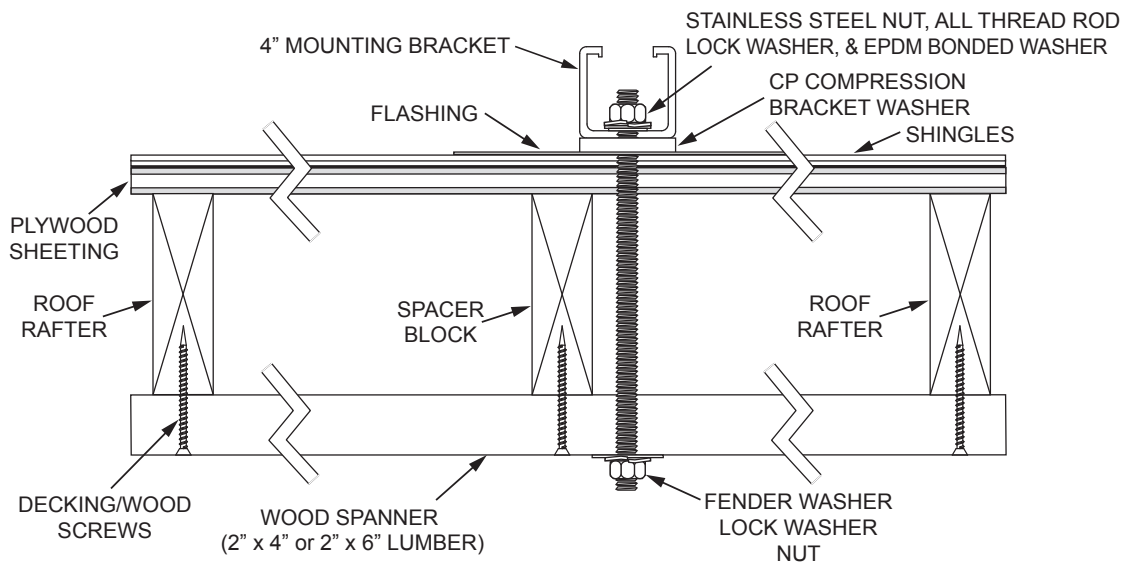

Figure 16.
3. Fabricate spanners, one for each mounting bracket, using a 2" x 4" or similar lumber. Spanners must be long enough to span at least two rafters. In the attic or crawl space drill a 5/16" hole through each spanner and insert the all-thread through it. Secure each spanner to the rafters with decking or wood screws. See Figure 16.
4. Fabricate spacer blocks, one for each mounting bracket, using a 2" x 4" or similar lumber the same width of the rafter next to each all-thread. Place spacer blocks next to the all-thread between the spanner and roof. Secure each spacer block to the spanners with decking or wood screws. Spacer blocks are necessary to avoid deformation of the roof. See Figure 16.